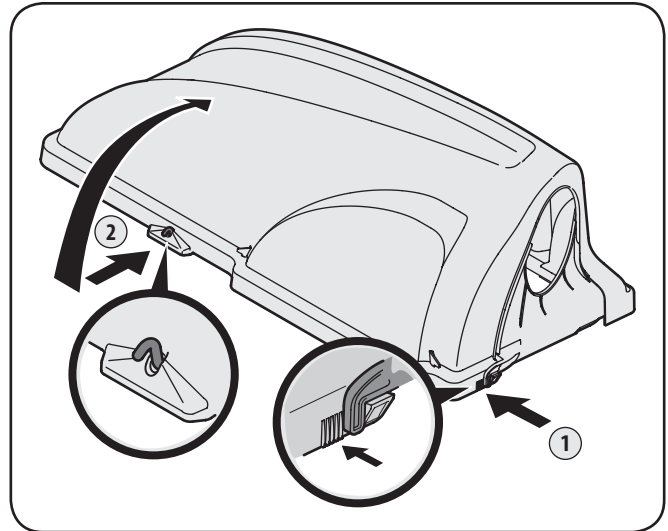

Figure 4-14
- Open Hood by pushing in on the rear, right-side tab with your right hand, as seen in 1 of Fig. 4-14, and lifting the cover with your left hand in the center rear of the bagger cover, 2.